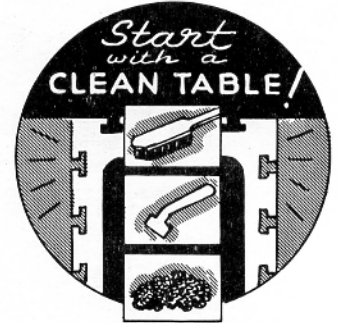

FIG. 122
3. Draw the slot cleaner (Fig. 122) through the entire length of the table so that all dirt and chips are removed.
4. Brush off the chips from the table top before and after cleaning the chips from the slots (Fig. 122).